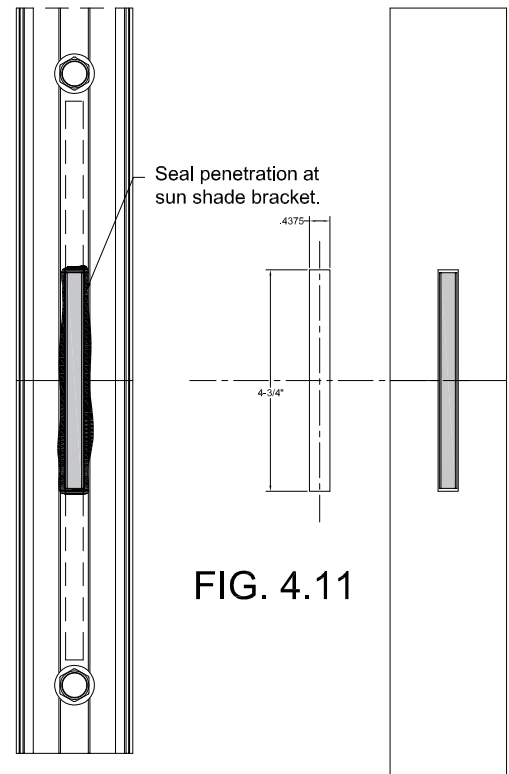

FIG. 4.11
- 5) A 7/16" wide x 4-3/4" tall clearance slot is required in the vertical cover at sun shade bracket location. (either slot in continuous pressure plate or or split pressure plate as shown FIG. 4.11)